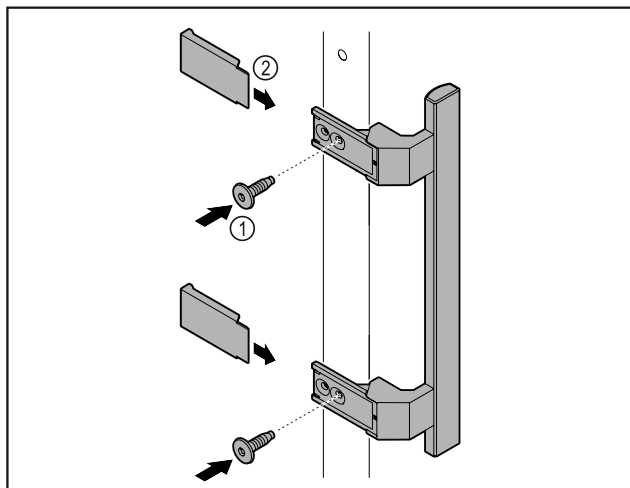

Fig. 6
- ▶ Attach handle from accessory kit to the door using the screws supplied Fig. 6 (1).
- ▶ Put on cover Fig. 6 (2).